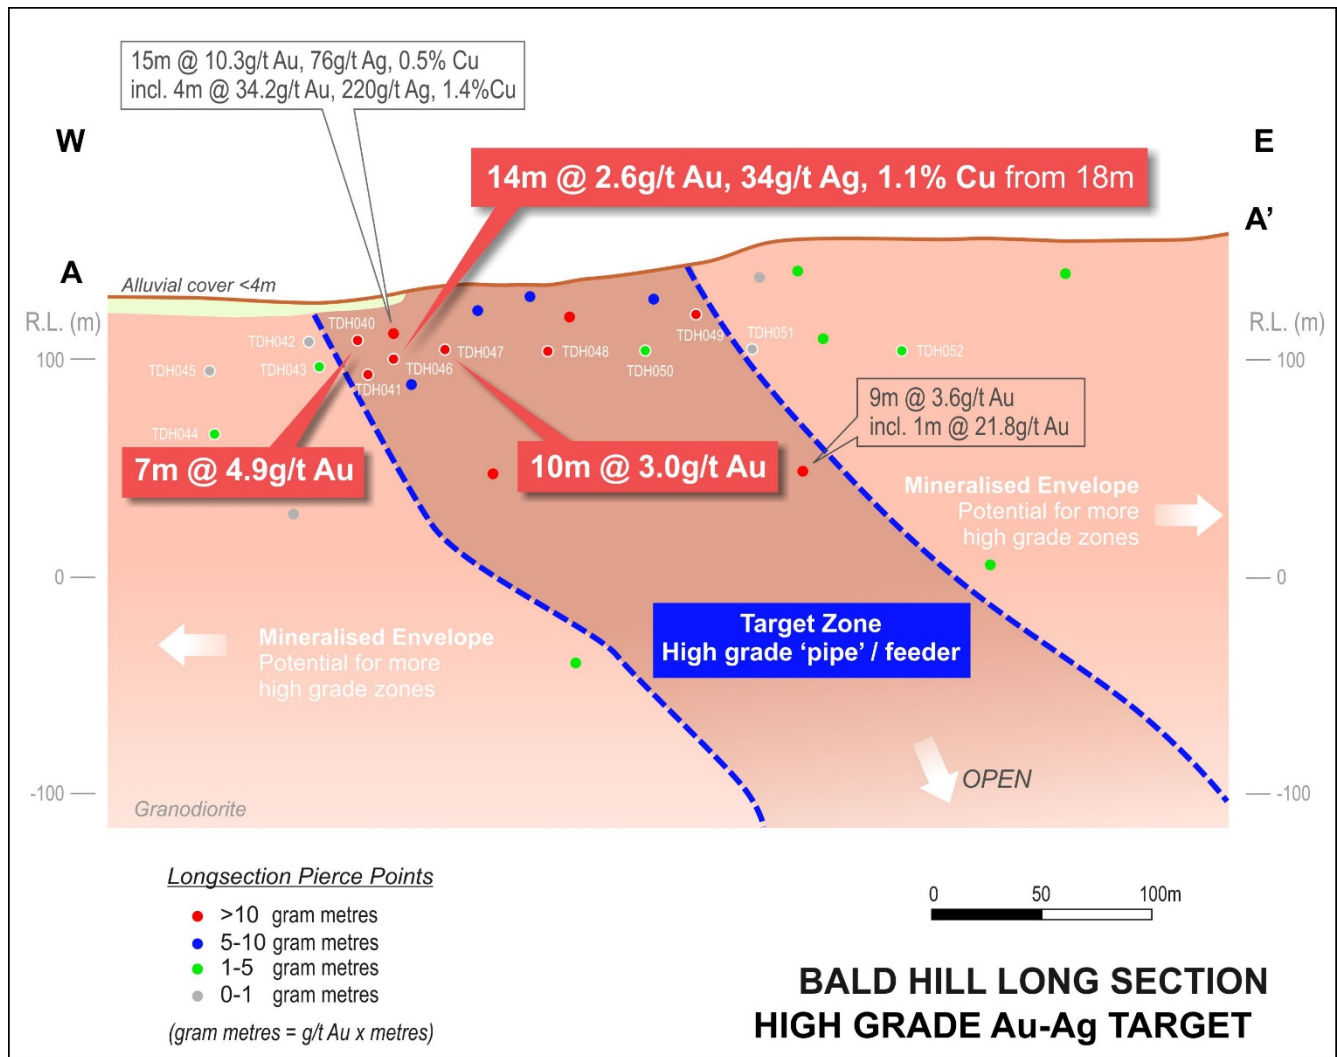

Figure 1: Bald Hill prospect long section showing preliminary gold results.
Drill results show continuity of near surface ore grade gold mineralisation (<40m below surface) extending over 200m of strike (Figure 1). This zone shows an excellent correlation with an Induced Polarisation (IP) geophysical anomaly2 which extends to greater than 300m depth, i.e. the limit of the survey / model (Figure 2).
Figure 2: **(Left)** - Bald Hill 3D induced polarisation inversion model (geophysical data) showing 8mV/V IP 'shell' which corresponds to sulphide mineralisation from drilling data. **(Right)** – Slice through model with the upper portion of the model corresponding to the long section shown in Figure 1, 8mV/V and 9mV/V shells shown.